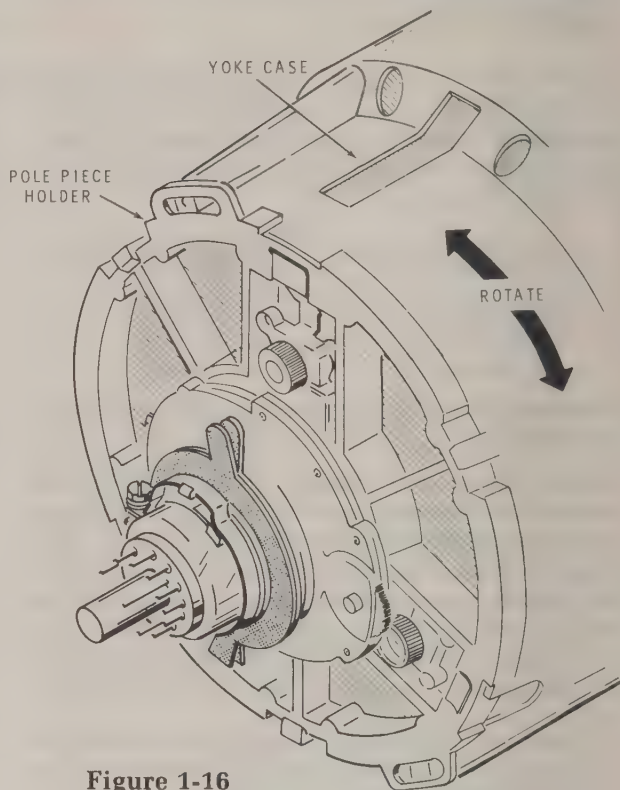

Figure 1-16
- () If the picture is tilted, straighten it by rotating the yoke case slightly. Do not rotate the pole piece holder. See Figures 1-16 and 1-17.